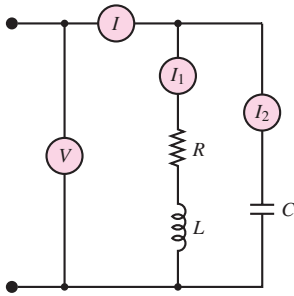

Figure P7.19
- 7.19** A single-phase motor is connected as shown in Figure P7.19 to a 50-Hz network. The capacitor value is chosen to obtain unity power factor. If  $V = 220$  V,  $I = 20$  A, and  $I_1 = 25$  A, find the capacitor value.